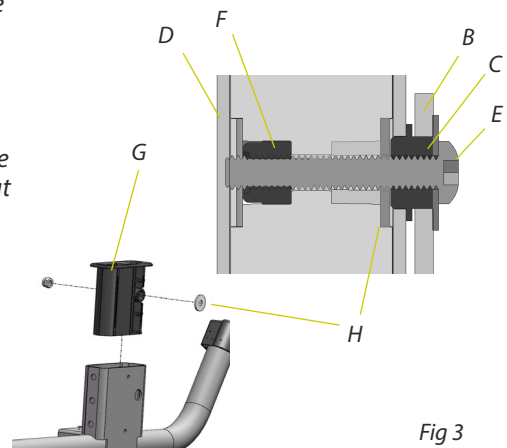

Fig 3
6. Change out the seat frame and re-attach by reversing the above steps. **NOTE!** Refer to Figure 3 and be sure that the bushings (C) that sit between the balance plate (B) and seat frame (D) are seated in the correct direction! The longer side must face outwards.